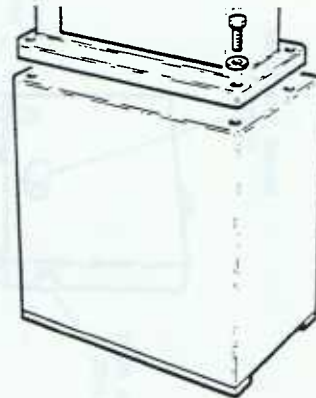

Fig.3.
3. Place bandsaw machine onto cabinet base with front of machine facing plain side of cabinet base as shown in Fig.3. Align holes in cabinet base with holes in bandsaw base and secure using 4 Hex. Hd. Screws M8 x 40mm, 4 Hex. Nuts M8 and 8 Std. Washers M8 supplied.